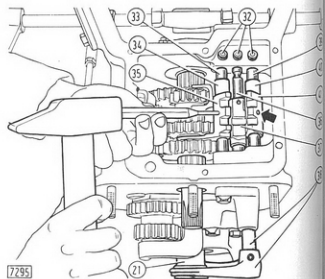
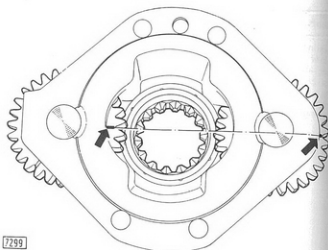

Fig. 111 - Removing a Selector Fork Spring Pin
Fig. 116 - Refitting Speed Reduction Idler Gears (Reference Marks Lined-up)
2. Gearshift mechanism (see Fig. 111).
- Refit (on bench) the speed reduction idler gears, lining up the reference marks as shown in Fig. 116. Lock the speed reduction unit to the case before refitting the selector shaft and fork (38, Fig. 111).
- To refit the gearshift mechanism refer to Figs. 111 and 118.